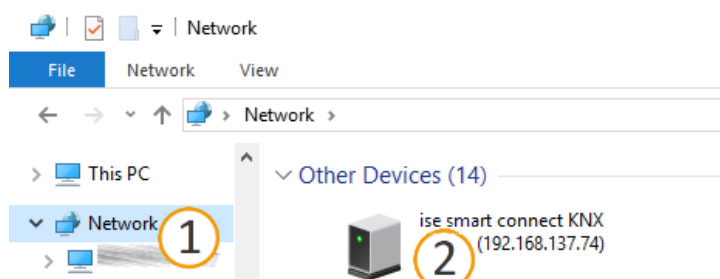

Figure 13: Calling up the device network via the network environment
- Alternatively, select the device in the network environment category <<Other devices>> (see figure 13, item 1): Double click on the device icon (see figure 13, item 2).